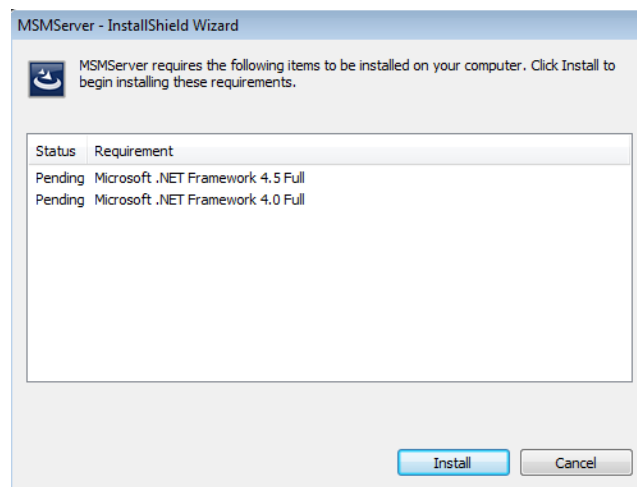

Figure 2
4. If the .NET Framework 4.0 and 4.5 are not both installed, the .NET Framework 4 installation window will appear. Check the "I have read and accept the license terms" box and click "Install". Click "Finish" when the .NET Framework 4.0 installation is complete. (Figure 2) If asked, choose "Restart later".